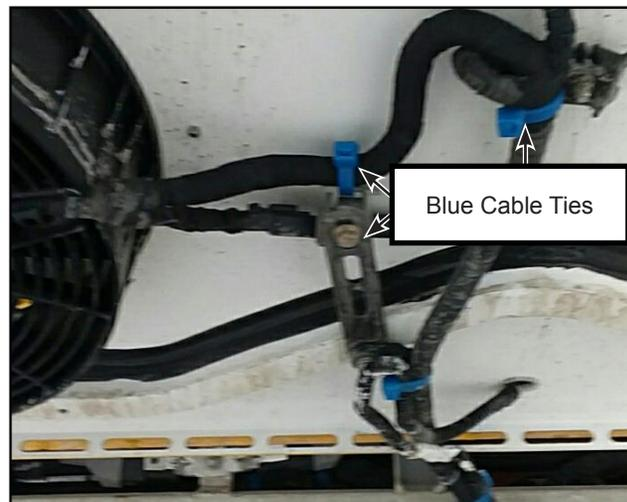

Figure 3 - Cable Ties Location
- 1.8. Cut the three blue cable ties (see figure 3).